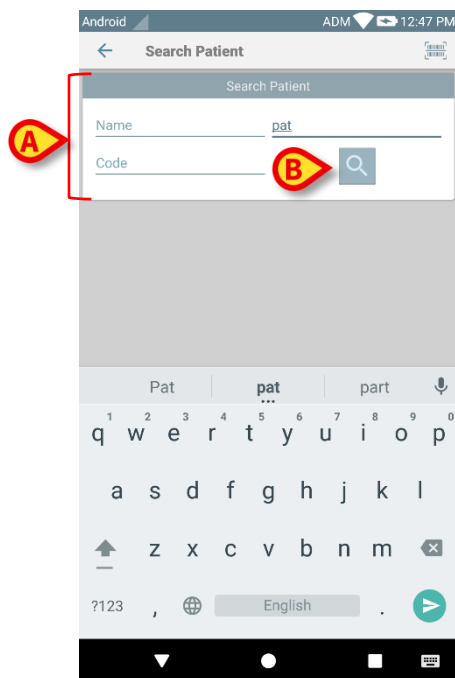

Fig 26
- insert patient data in the fields indicated in Fig 26 **A** (name, surname, code), then click the **Search** button (Fig 26 **B**). Partial information is allowed.